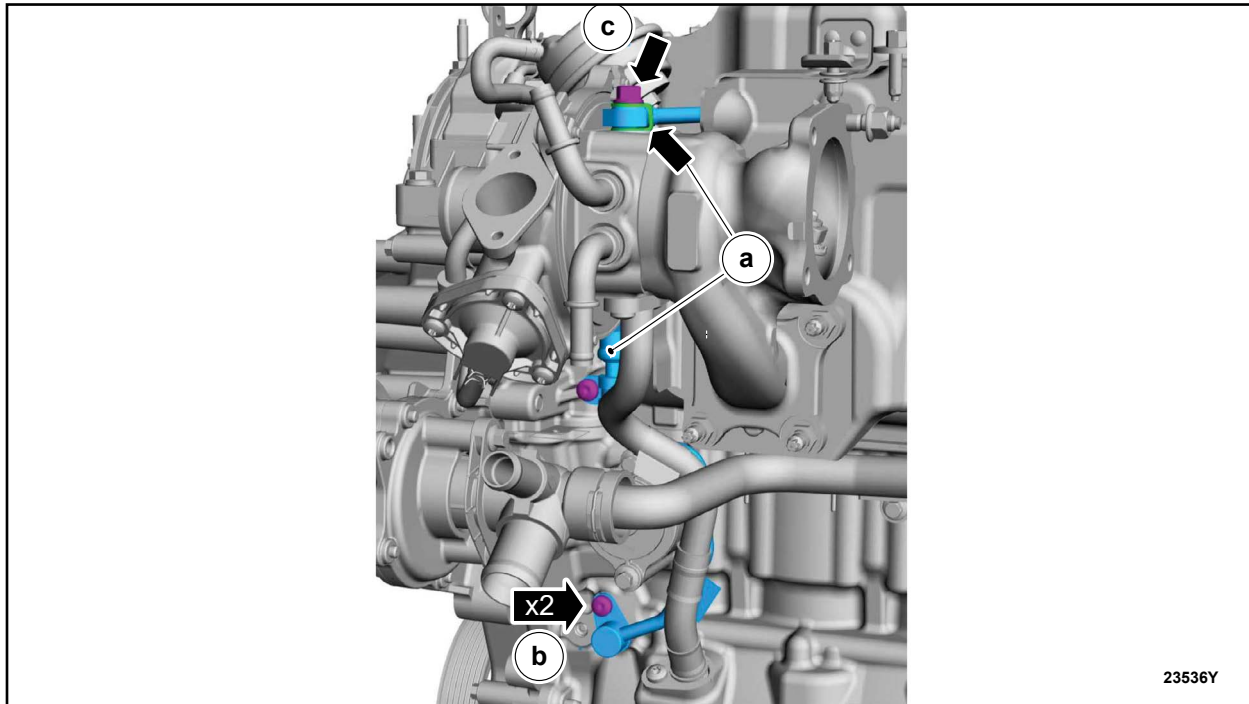

FIGURE 29
36. **Only tighten the bolts finger tight at this stage.** See Figure 29.